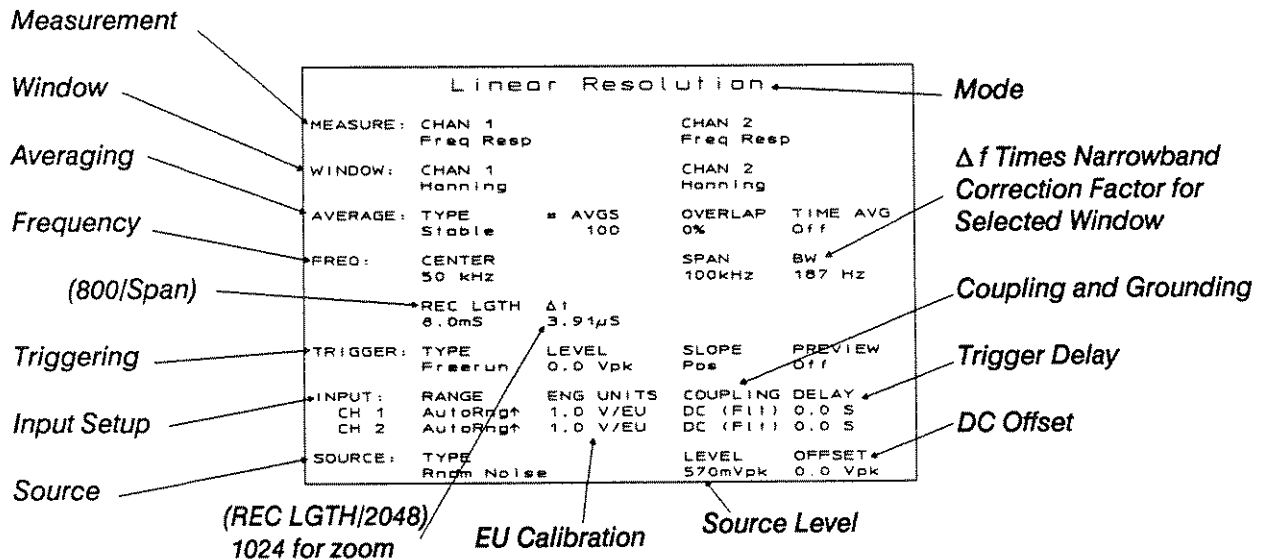
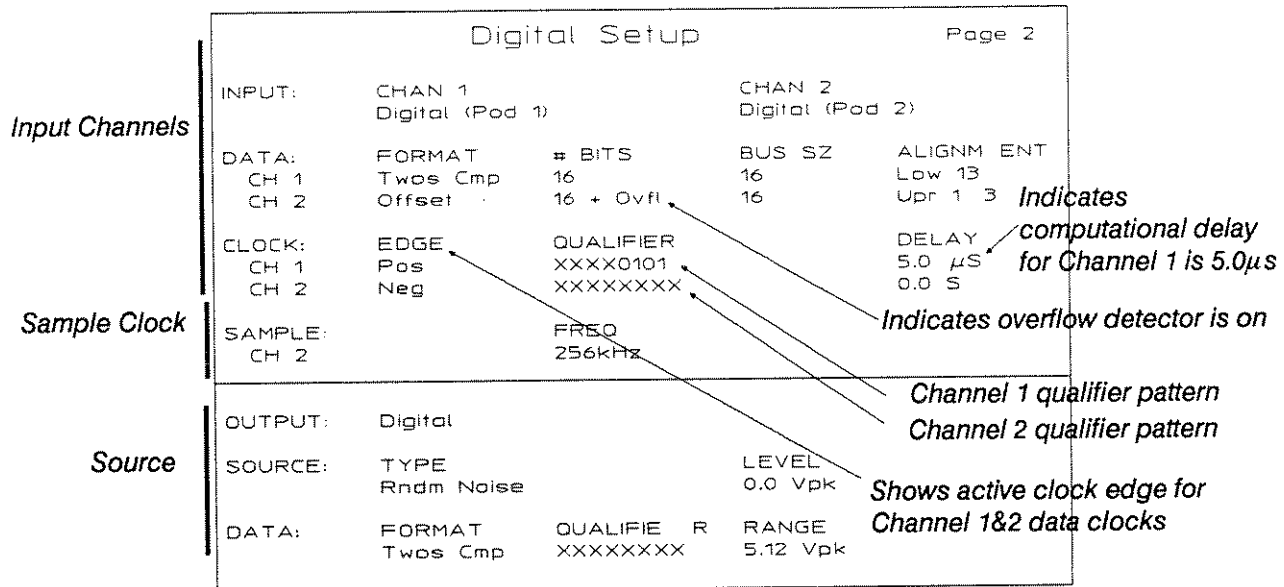

Figure 8-5. Analog State Information
Figure 8-6. Digital State Information
**STATE/TRACE** toggles between the instrument state display and the displayed trace. There may be two pages of state information: page one with measurement setup information (Figure 8-5); page two with digital input-channel information (Figure 8-6). Figure 8-5 and shows the state display at power-on or reset.